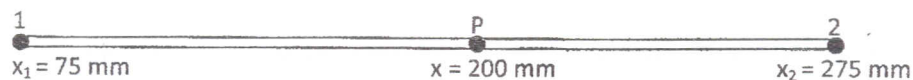

Fig. 1.
b) Consider a bar of 200 mm length, 750 mm^2 cross sectional area and Young's modulus $2 \times 10^5 \text{ N/mm}^2$, as shown in the Fig. 1.